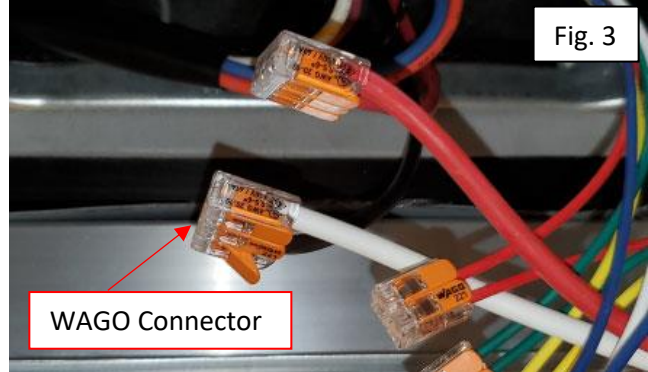

Fig. 3
4. Complete the repair instructions below to replace the wago connectors with blue wing nut connectors within the A/C electrical connections. (Figure 3) File claim for inspection only if the installation of blue wing nut connectors is completed.